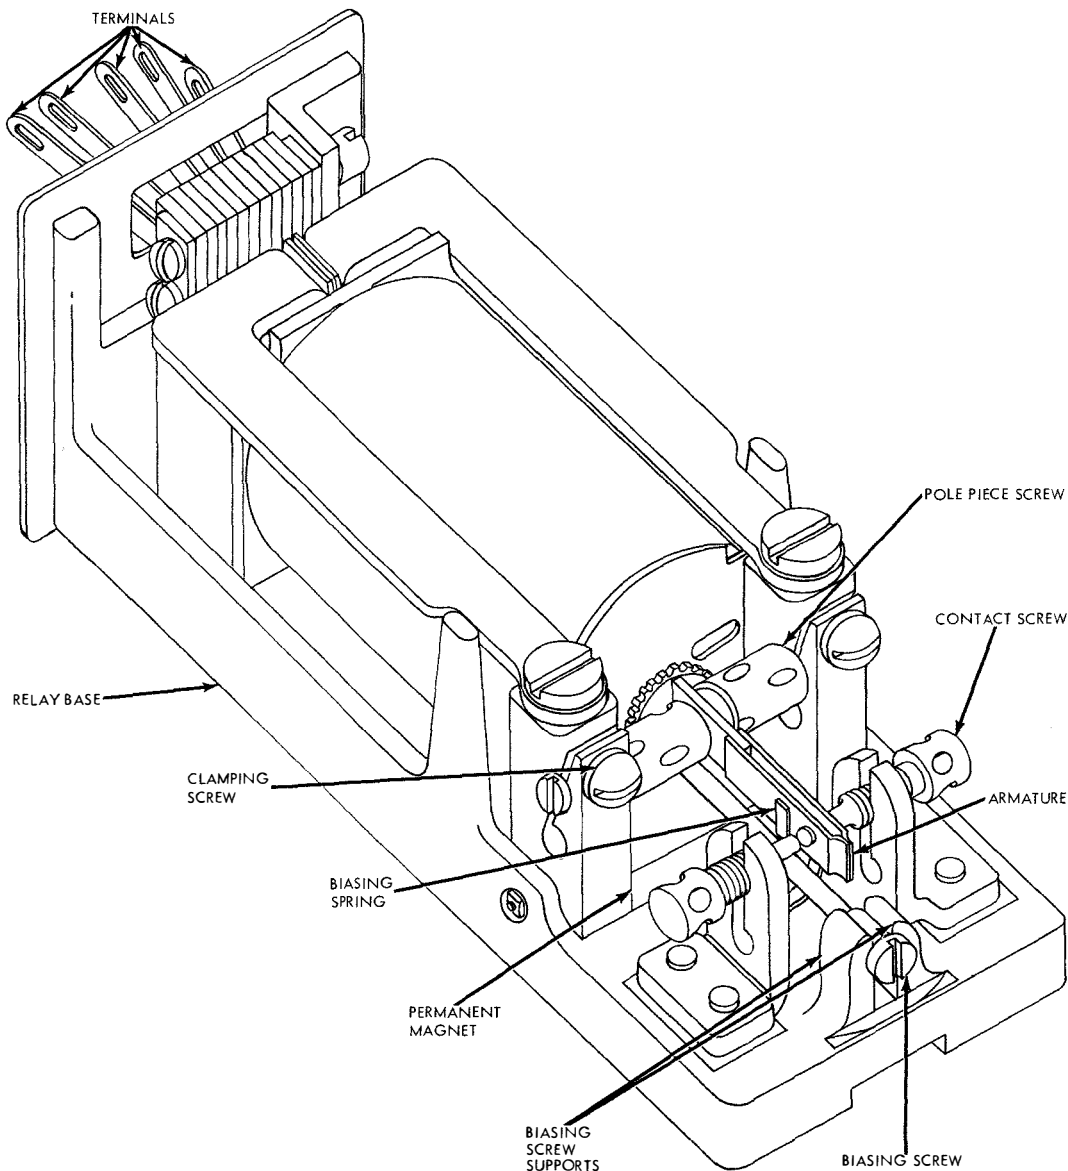

Figure 7-126. Parts of Relays K-105 and K-206
e. TESTING AND ADJUSTING WE280BA RELAYS K-105 AND K-206. (See figure 7-126.)
(1) The armature springs should bear against each other on at least one point and must not have more than a 0.002-inch gap at any point across the front edges. Gauge by eye.